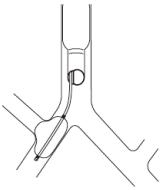

Fig.9
3. For the right thoracotomy, position and inflate the blocker cuff so as to slightly herniate it into the upper lobe bronchus. This will help fix the blocker cuff in position and securely block the right main stem bronchus (Fig.9).